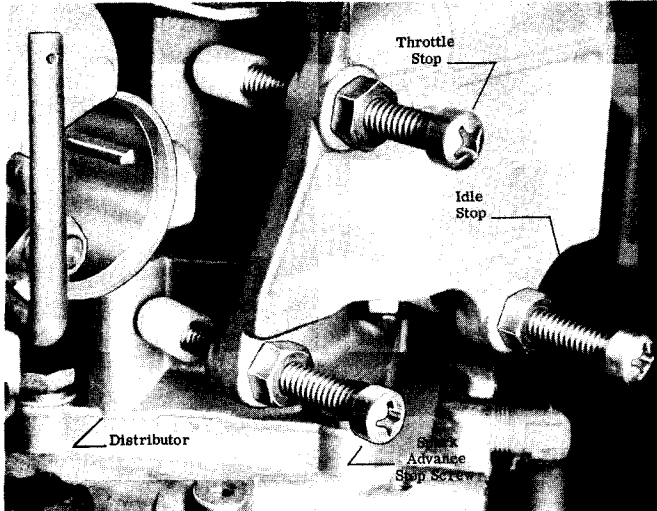

Figure 3. Spark Advance Adjustment
11. Retard distributor against "idle speed" stop screw. (Figure 3)
2. Adjust "throttle stop" screw on stop bracket (Figure 3) to allow full throttle shutter opening but not to allow throttle shutters to act as a stop or the carburetor cluster to hit carburetor filter bowl.